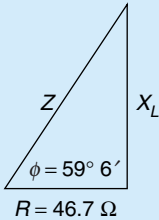

Figure 33
20. Calculate Z and X_L in Figure 33